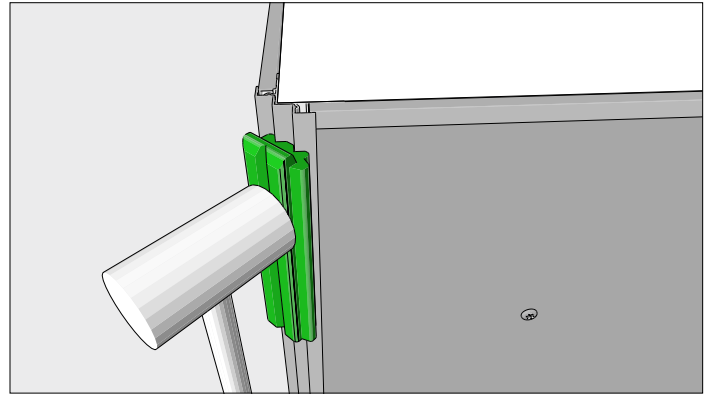

Figure 17.3
18. Align the top cap with the back plate. Place the EasyTrim® HammerBlock® in the center of the top cap. Hit the HammerBlock® in 8" to 10" increments along the length of the trim from one end to the other. (Figure 17.3).